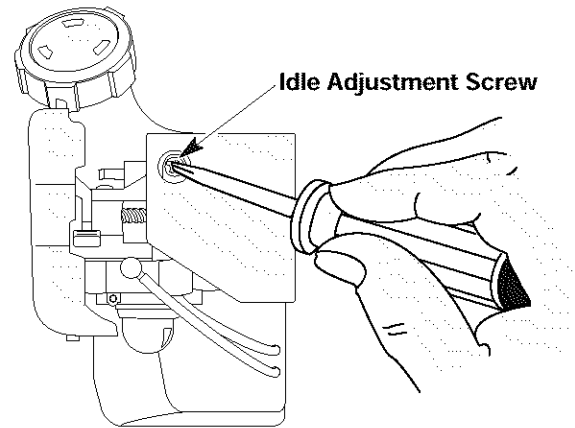

Fig. 35
The idle speed of the engine is adjustable. An idle adjustment screw is reached through a hole in the top of the engine cover (Fig. 35).
2. Release the throttle trigger and let the engine idle. If the engine stops, insert a small phillips or flat blade screwdriver into the hole in the engine cover (Fig. 35). Turn the idle speed screw in, clockwise, 1/8 of a turn at a time (as needed) until the engine idles smoothly.